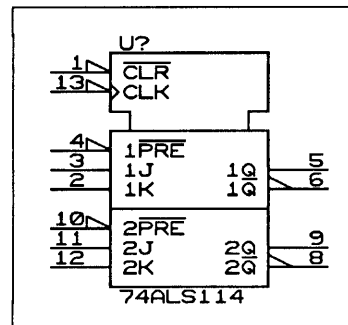

Figure 19-14. The 74ALS114 IEEE part.
- ❖ You have more freedom when drawing the vector components. In particular, some components must be placed outside the part body. For example, an input ACTIVE\_LOW must be placed to the left of the part body, as shown by pins 1, 4, 10, and 13 in figure 19-14. Inputs placed to the left of the part body have a negative X offset in the vector section of the IEEE symbol definition. See figure 19-13.
*Building the IEEE body outline* IEEE symbols usually have a rectangular outline. They often consist of a control section on top of a main signal section. There are usually indentations in the outline near the bottom of the control section. Normally the indentations are 0.1 inch high. Figure 19-14 shows an example.